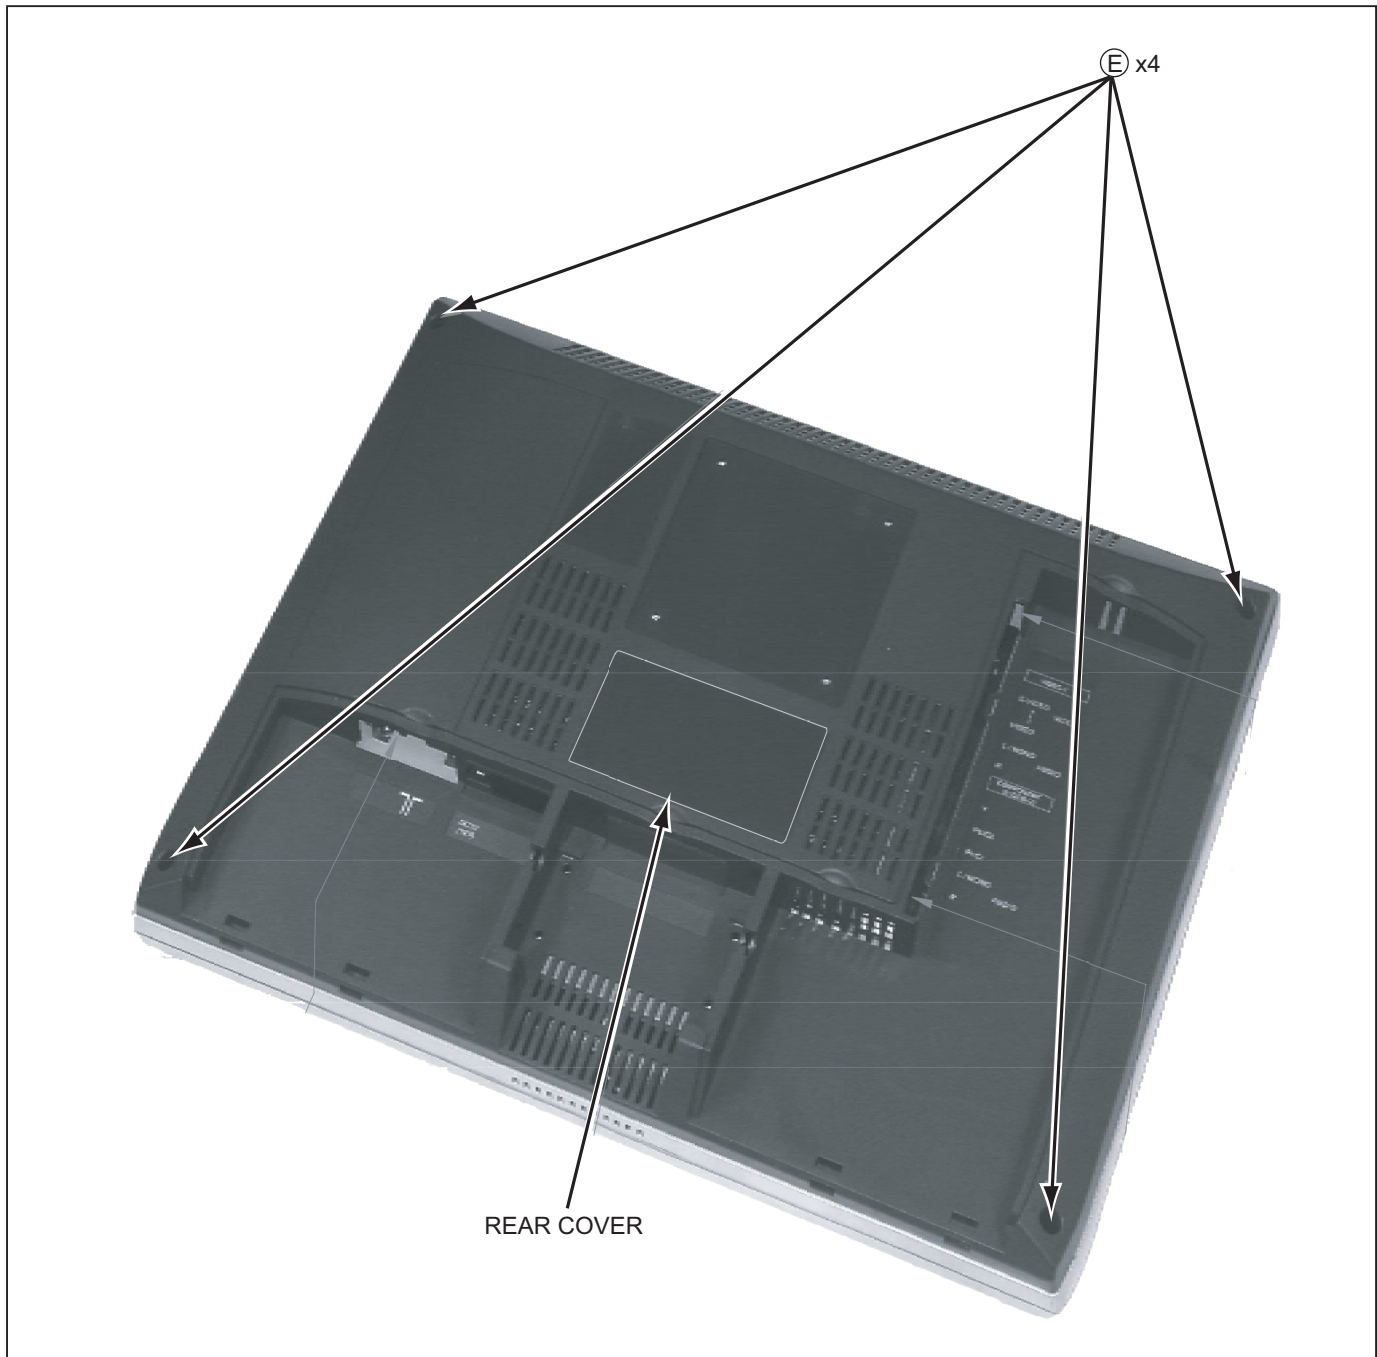

Fig.3
3.1.5 REMOVING THE REAR COVER (Fig.3)